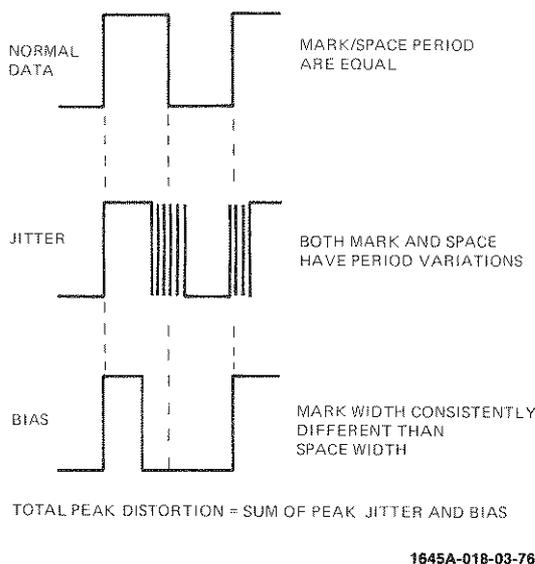

Figure 3-3. Jitter, Total Peak, and Bias
**3-21. Jitter or Total Peak.** (See figure 3-3.) Jitter is an asynchronous system measurement indicating the maximum peak-to-peak variation in bit periods of the received data due to timing variations expressed as a percent of an ideal bit period. TOTAL PEAK indicates total peak distortion, the sum of peak jitter and bias. Bias is the consistent width variation of a mark with respect to a space. The jitter and total peak measurements are disabled when CLOCK is set to EXT.